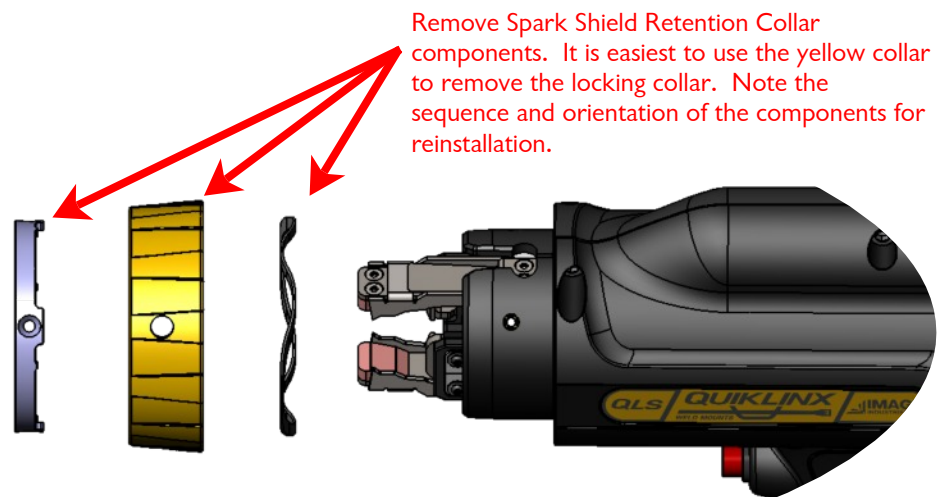

Figure 18
4. When all the screws have been removed, the yellow retention collar assembly can be removed from the front of the tool (Figure 18). The locking collar is a snug fit and will require some effort to slide off the nose of the body housing. Set the screws and these 3 pieces aside.
6. To reinstall reverse the steps. It is important to note the proper order and orientation of the components shown in Figure 18.